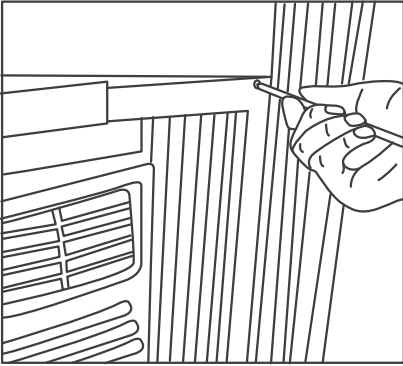
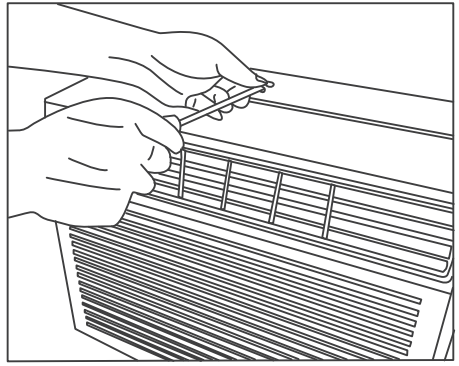

Fig.9
Fig.10
- 5** Drive 1/2" (12.7mm) locking screws through frame holes into window sash (Fig.9 Fig10)